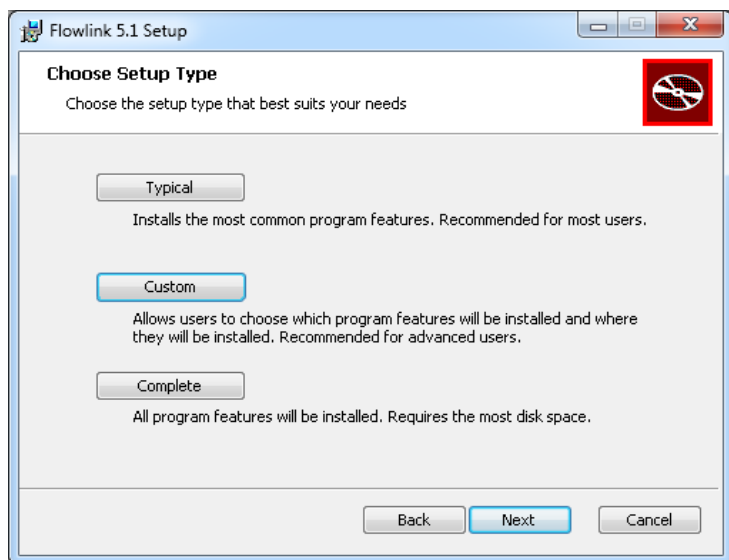

Figure 2-2 Setup Type screen
6. The Setup Type box is displayed (Figure 2-2).